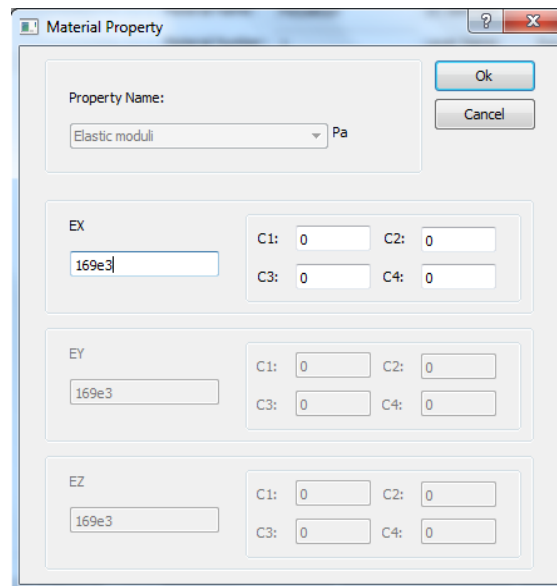

Figure 156: Material Properties dialog.
- ☑ In the **Material Database** dialog, click **«Add»** under the **«Properties»** list to open the **Material Properties** dialog, as shown in (Figure 156).